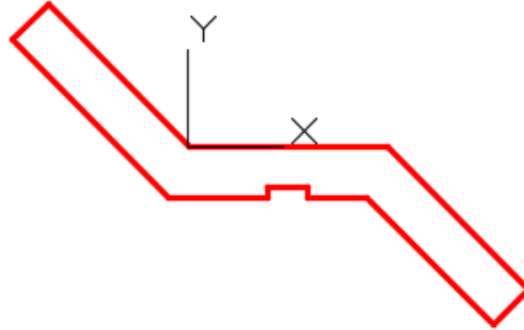

Figure Step 7
Step 7 Set layer: Model as the current layer. Draw the front contour of the model as shown in the figure. Drawing it in 2D is sometimes easier. It could have been drawn in the 3D view also. (Figure Step 7)